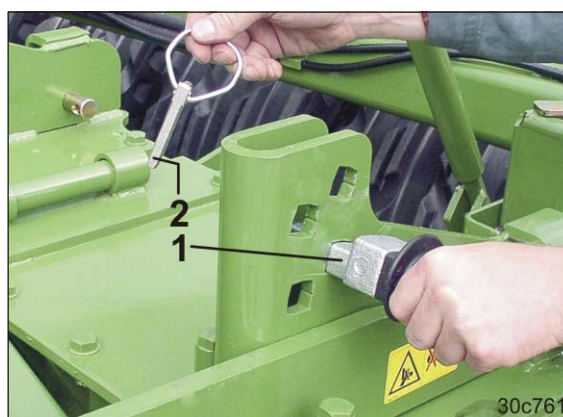

Fig. 104
3. Position the depth setting pin (Fig. 104/1).
4. Secure the depth setting pins with lynch pins (Fig. 104/2).
Whenever you relocate the depth setting pin, secure it using a lynch pin (Fig. 104/2).